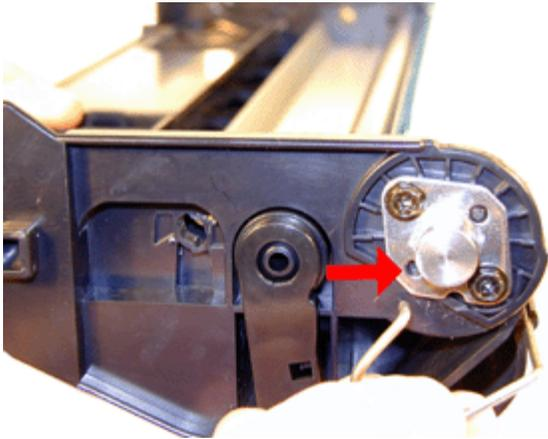

FIGURE 5
3. Remove the drum cover bar from both drum axle pins. See Figures 5 & 6